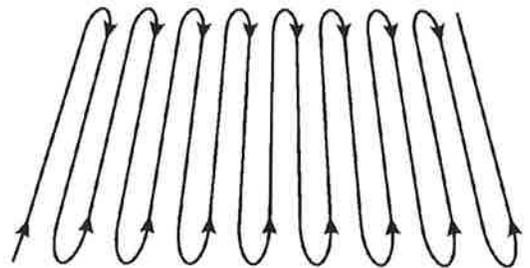

Figure 10-17. To use the half-width method, apply in parallel passes one-half the effective swath width apart.
**Half-width Method**—Use parallel passes spaced apart at one-half the swath width (Figure 10-17). For example, if the swath width is 10 feet, make each pass at 5-foot intervals.